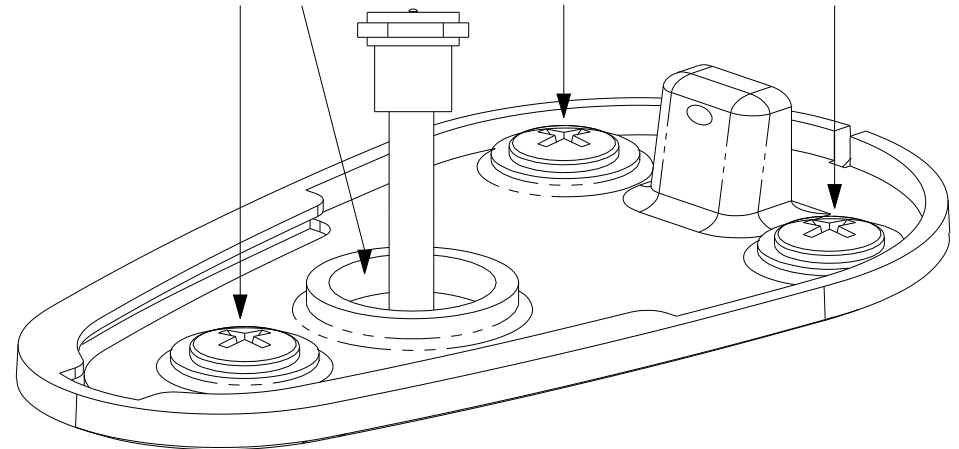

FIGURE 4
- Apply approved caulking compound around all holes. Place base over holes and caulking. Secure base using the included 3 screws. Apply approved caulking compound to screw heads and fill 1/2" hole with caulking compound. See Figure 4